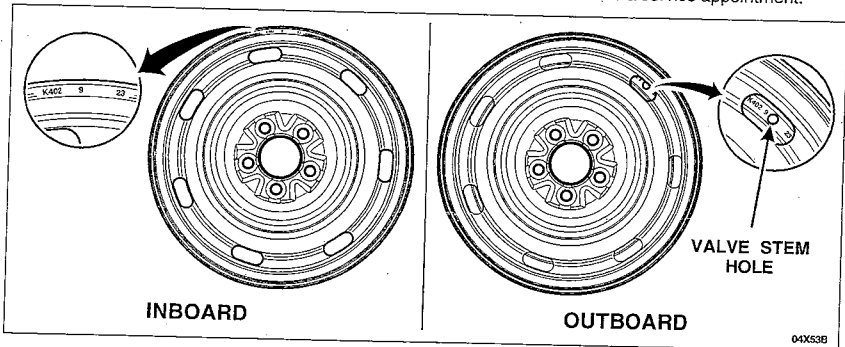

FIGURE 2
5. Clean the wheel around the valve stem as necessary and read the build date code. See Figure 2.